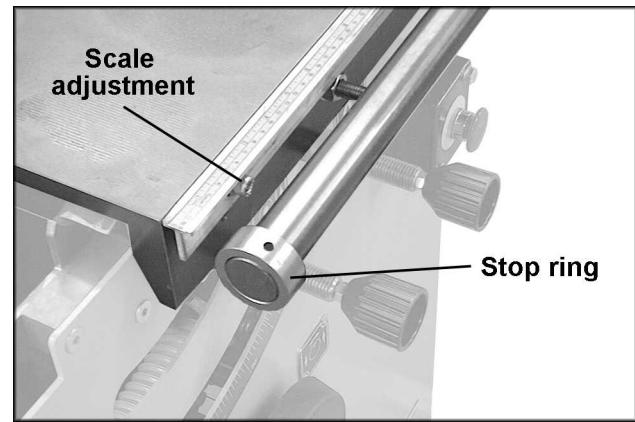

FIGURE 33
2. Loosen the three screws on the scale (Fig. 33) and nudge the scale until it matches the cut measurement. Make another cut to confirm the measurement.